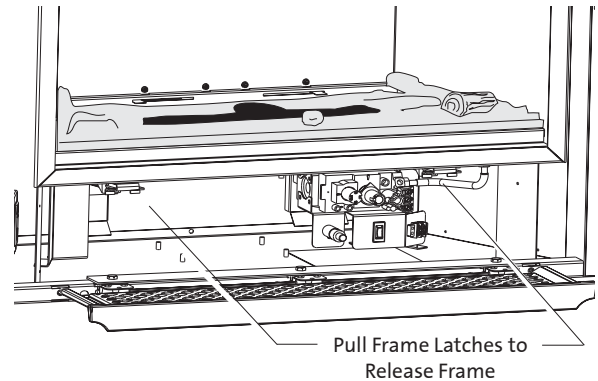

Figure 36. Glass Frame latch locations.
- 1. Remove the Glass Frame, if you have not already done so.** Open the lower control panel and locate the two frame latches under the firebox floor. See Fig. 36. Pull the latch handle forward to disengage it from the bottom of the glass frame. You can then pull the frame out and up off of the three retainer tabs at the top of the firebox opening. Set the Glass Frame out of the way.